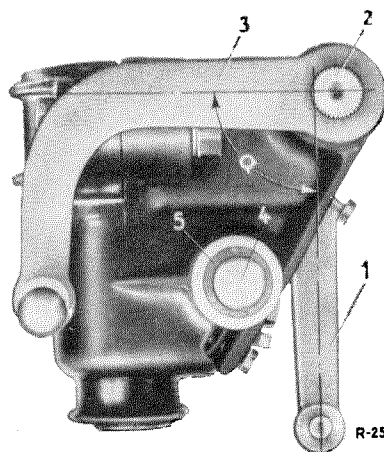

Fig. 26 — 14/2
Check the lever (3) to see whether it is firmly seated on the relay shaft (2) and, if necessary, weld the lever to the shaft (Fig. 26 — 14/2).
6. Drive or press the left and right needle bearings into the bearing assembly. The needle bearings must fit snugly against the collar of the bearing assembly (see Fig. 26 — 14/1).
7. Slide a washer (15) and a sealing ring (16) onto the relay shaft, smear the relay shaft with roller bearing grease, and install it in the bearing assembly.
8. Then slide a sealing ring (16) and a washer (15) together with a spring washer (Part No. 121 990 00 48) onto the free end of the relay shaft (see Fig. 26 — 14/1).
9. Install the relay lever (1) on the relay shaft (2) serrations in such a way that the relay lever (1) is at right angles to the stationary shaft lever (3) (Fig. 26 — 14/2). Then tighten up the clamping screw of the relay lever (1). Make sure that the spring washer (Part No. 121 990 00 48) is not fastened too tightly.
1. Use suitable pliers to remove the snap ring (9) (see Fig. 26 — 14/1).
2. Press out the rubber bearing (8) toward the inside by means of a suitable drift.
Do not drive it out! (see Fig. 26 — 14/1).